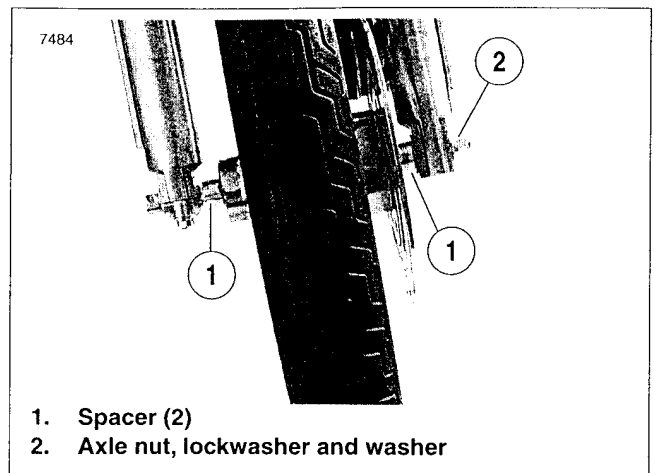

Figure 2-8. Front Axle Assembly
2. See Figure 2-8. Place wheel into front fork and install axle. Verify that axle spacers (1) on right and left side are properly installed.